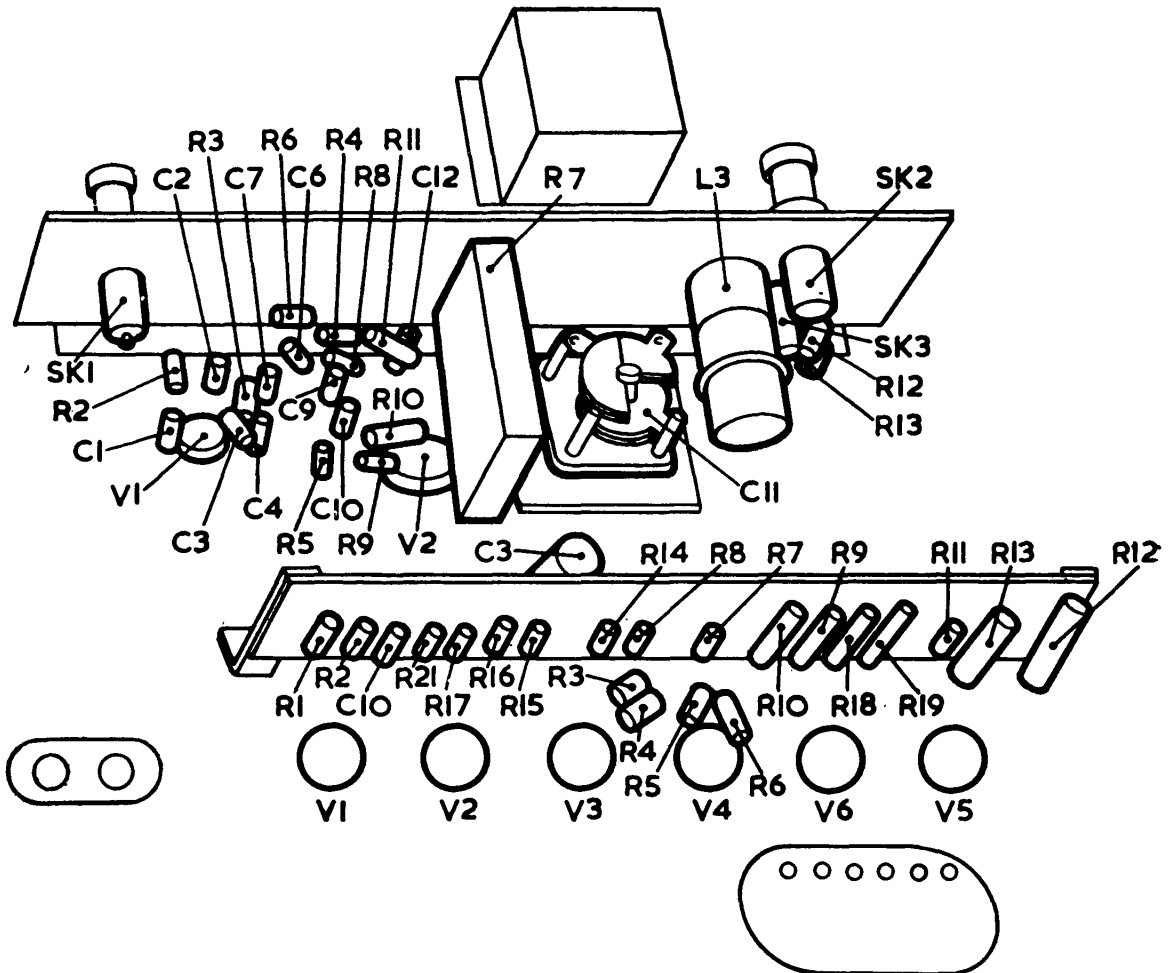

Fig. 6. Amplifier Type 3719, tagboard layout
6. The circuit diagram of the complete amplifier is given in fig. 6. Normally the STC and LPF are by-passed and the input is taken direct to the cathode of the pentode V3 (Type CV1091). This point is therefore directly connected to the cathode of the valve V19 on the amplifier (IF and Vid.) Type A.3680 (Chap. 4 of this Section).